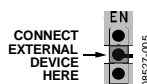

Figure 4. EN Pin Direct Connection
- Alternatively, connect a voltage between VIN and GND to the center pin of the EN test bus for independent control of the EN pin voltage (see Figure 4).